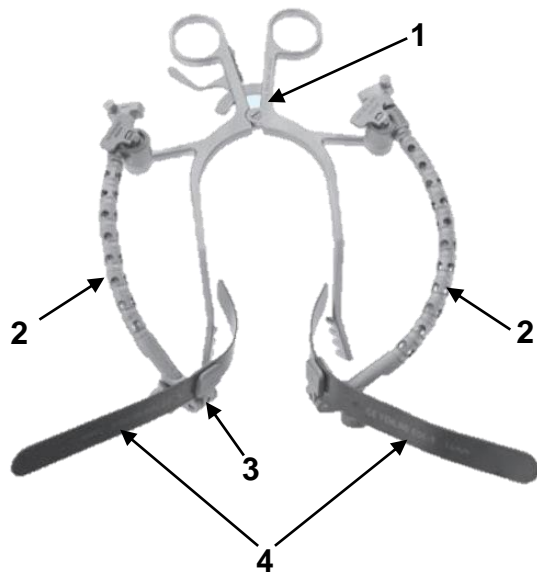

Figure 1: Configuration example for the CONCEPT CEREBELLAR retractor with the flexible arms, spatula adapters and the spatulas
Figure 1 depicts a configuration example for the CONCEPT CEREBELLAR retractor (1) with the flexible arms (2) and the spatulas (4). Table 1 lists the corresponding components.